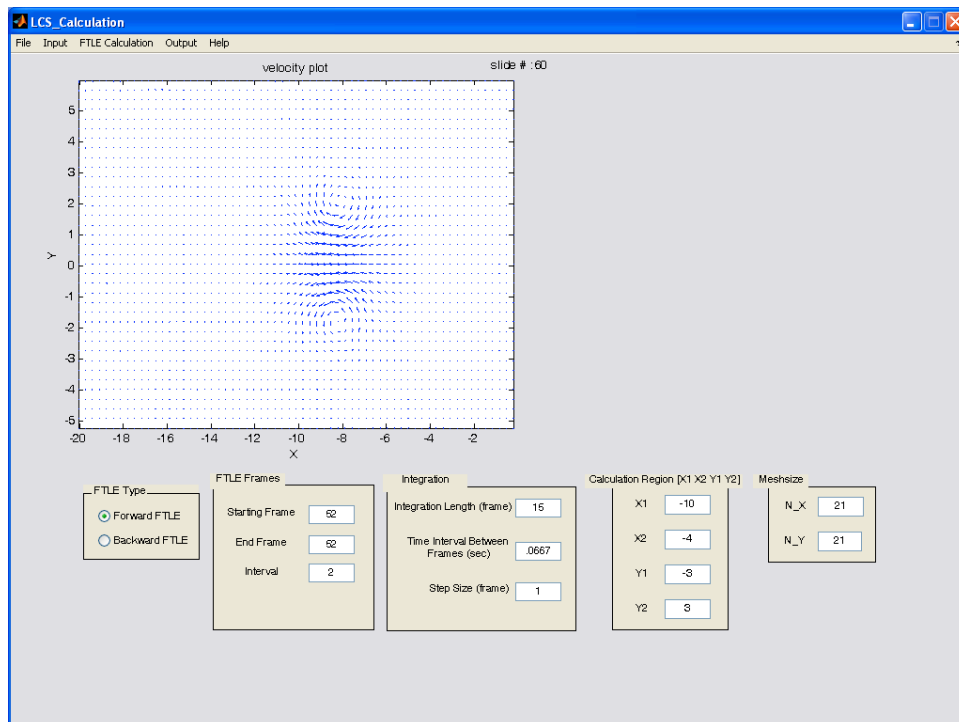

Figure 2.3
2.3 The velocity can be plotted by selecting 'Input -> Plot Velocity Field'. Enter the starting and ending frame number in the dialogue box. Then click 'OK' and the velocity field is plotted on the interface (Fig. 2.3). Make sure the starting and ending frames number do not exceed the number of frames.